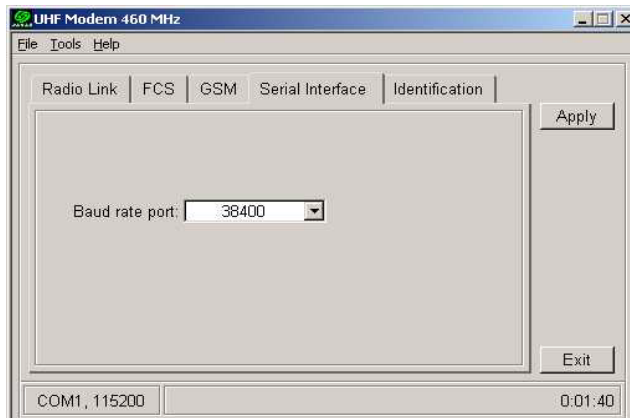

Figure 2-25. Serial Interface Tab
- Click the **Serial Interface** tab (Figure 2-25) and select a baud rate for the modem's serial port. The same rate must be used for both the receiver and the modem.
7. Click the **Serial Interface** tab (see Figure 2-25 on page 62) and select a baud rate for the modem's serial port. The same rate must be used for both the receiver and the modem.
7. Click the **Serial Interface** tab (Figure 2-25 on page 62) and select a baud rate for the modem's serial port. The same rate must be used for both the receiver and the modem.
7. Click the **Serial Interface** tab and select a baud rate for the modem's serial port. The same rate must be used for both the receiver and the modem (Figure 2-25 on page 62).
7. Click the **Serial Interface** tab and select a baud rate for the modem's serial port. The same rate must be used for both the receiver and the modem (see Figure 2-25 on page 62).